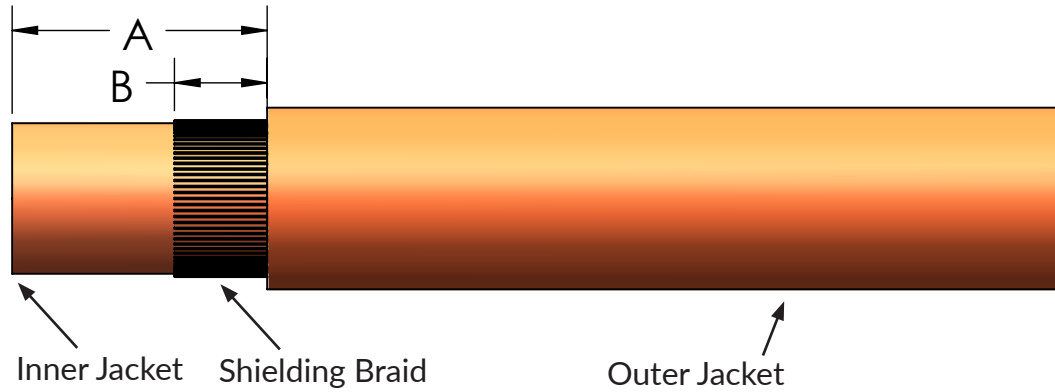

Figure 3
2) As figure 3 shown, strip the shielding braid per table 2 dimension “B”;